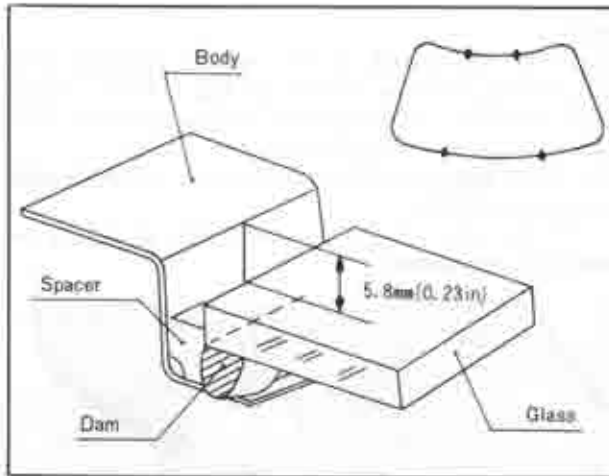

Fig. 14-35 Adjusting clearance
8. Firmly press the glass against the sealant with hand pressure. Then, inspect the appearance of the sealant through the glass. A dull spot indicates an area where the sealant does not contact glass surface. Additional hand pressure will seal most areas. When installing the glass, 5.8 mm (0.23 in) clearance should exist between the body and the glass. Check the clearance at the four positions shown in Fig. 14-35.